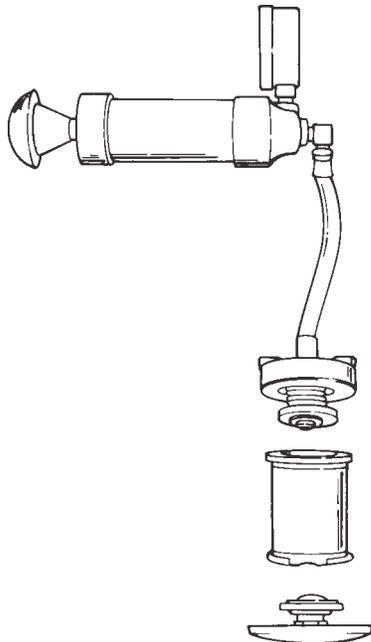

Figure 1-8. Pressure Cap Test Hookup.
4. Attach the pressure cap to be tested, as shown in Figure 1-8, to one end of adapter. Attach opposite end of the adapter to the pressure tester by pressing together and rotating adapter until the locking ears contact the stops on the adapter cams.